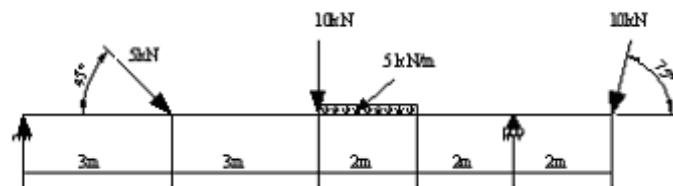

Figure 2
2. Draw the shearing force and bending moment diagrams for the beam loaded as shown in Figure2. [16]